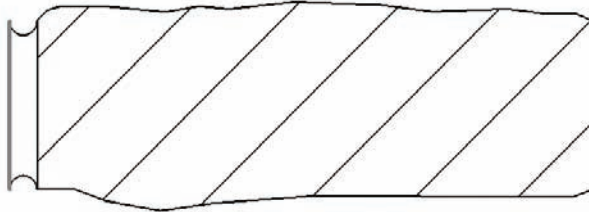

FIGURE 12.22 The brick is looking the way you want it to.
17. On the Mode panel, click Finish Edit Mode, and your brick should look like Figure 12.22.